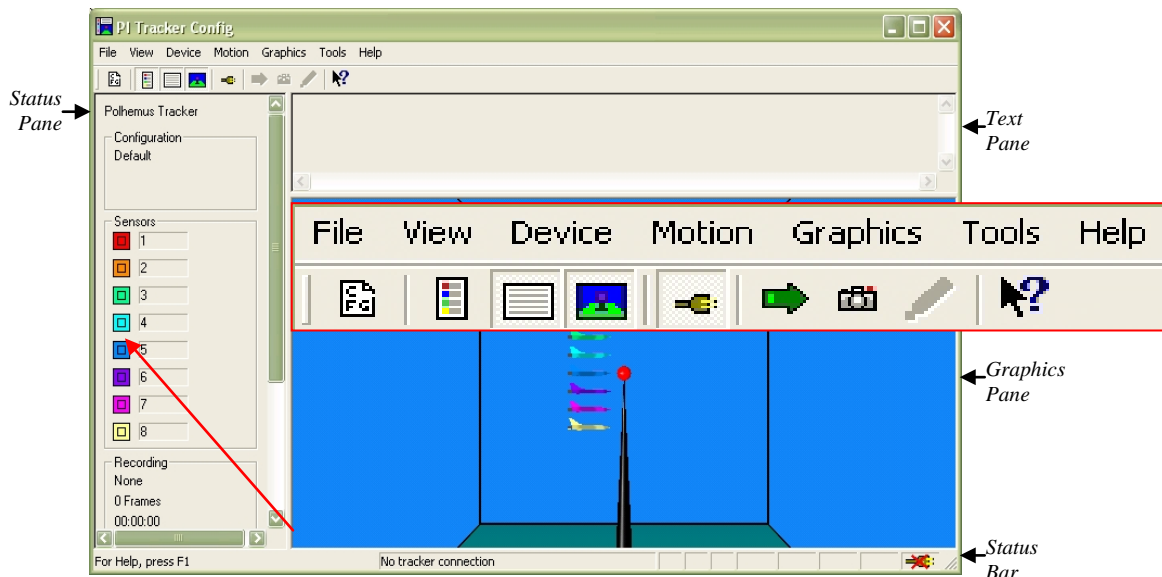

Figure 1-28: PiMgr Screen Display, No Connection
- 1.5.1** The initial PiMgr screen will appear as in Figure 1-28. With no LIBERTY LATUS system connected, notice that the  icon appears in the lower right corner. Once connected, the icon will change to .
1.5.5 To create a connection, click the **Connect** button on the PiMgr toolbar:  (see Figure 1-28). When the connection has been established, the connection icon at the lower right will change to .